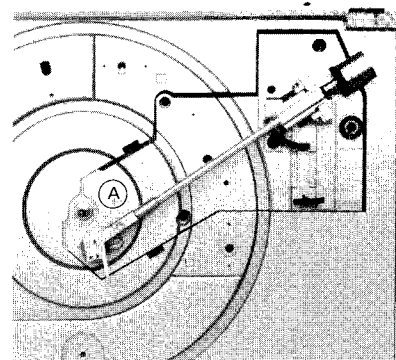

Fig. 13
4. Move the tonearm in direction of the center spindle as shown in Fig. 13.
2. Set the tonearm as in Fig. 13.
**Note:** When remounting the feet ① - ④, mount the feet having slipproof at the front side.